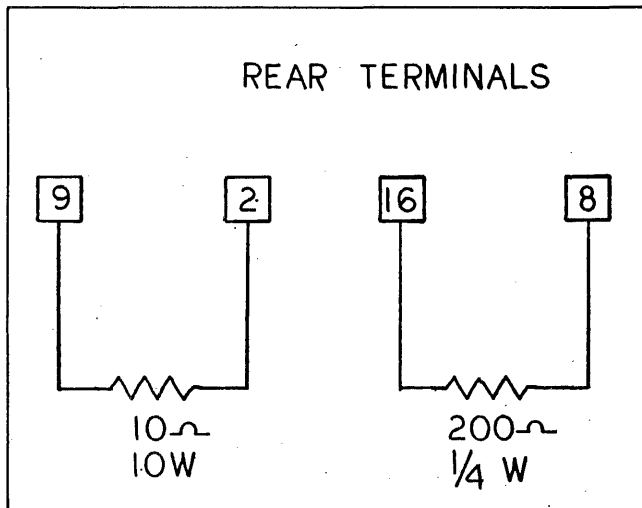

FIGURE 4-25 AFM-2 MODIFICATION FOR MAINFRAME TESTS
c. Modify the AFM-2 as in figure 4-25 and install the modified AFM-2 in the right-hand compartment. Also install an RF module and FIM module in the left and center compartments respectively.